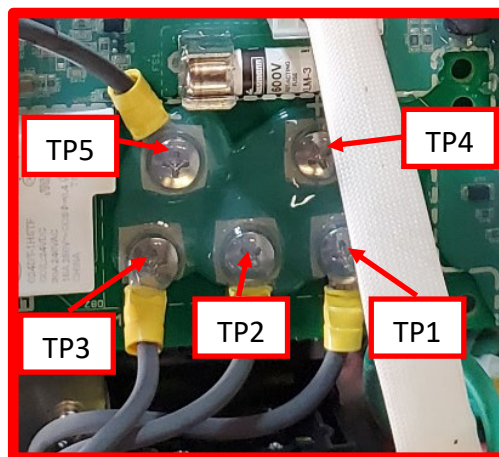

Figure F.4
B.3. Perform the measurements identified in Test Table 2 below, refer to Figure F.4 for test point locations.